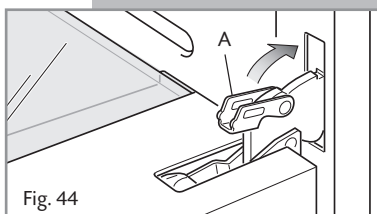

Fig. 44
- Unlock the oven door by opening it completely and closing the lever **A** on the left and right hinges (Fig. 44).